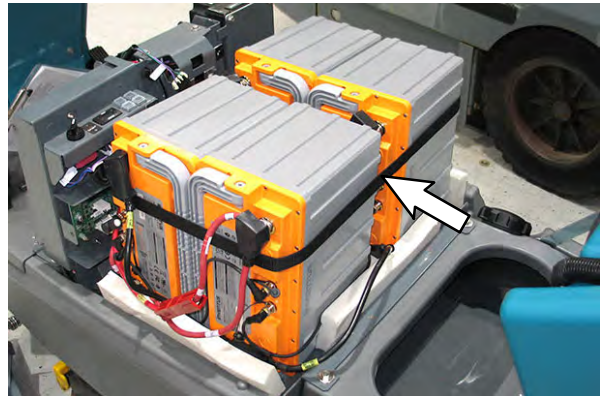

FIG. 8
6. If necessary to allow easier access to the lithium batteries, remove the strap from around the batteries. (Fig. 8)